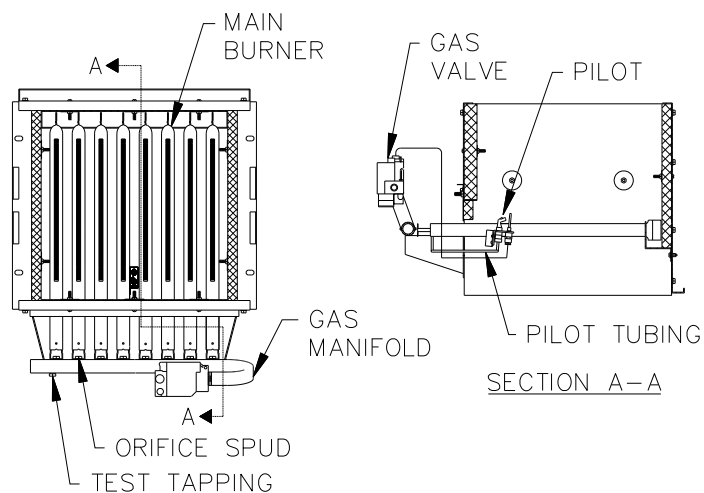

Figure 8.1: Gas, Valve, Manifold and Burner Assembly, GM-05/06 (Standing Pilot shown, Intermittent Ignition similar)
8. Connect a manometer to 1/8 NPT tapping provided on the manifold. See Figures 8.1 and 8.2.
13. The gas manifold and control assembly provided with this boiler meet with all criteria regarding safe lighting and performance as specified in ANSI Z21.13 (CSA 4.9), *Gas-Fired Low-Pressure Steam and Hot Water Boilers*. The gas manifold and control assembly are made of gas-tight, completely factory assembled and installed components of the base assembly. See Figures 8.1 and 8.2.